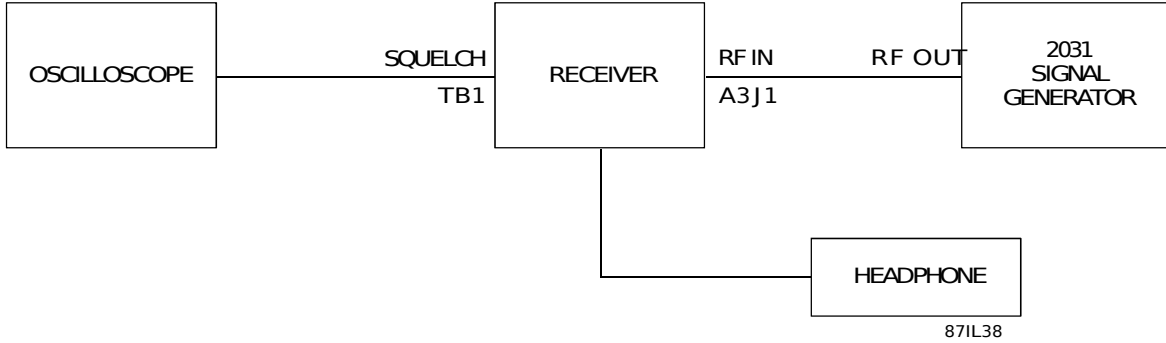

Figure 7-6. Squelch/Mute Performance Test Equipment Connection
1. Connect the WJ-8710A Receiver and test equipment as illustrated in **Figure 7-6**.